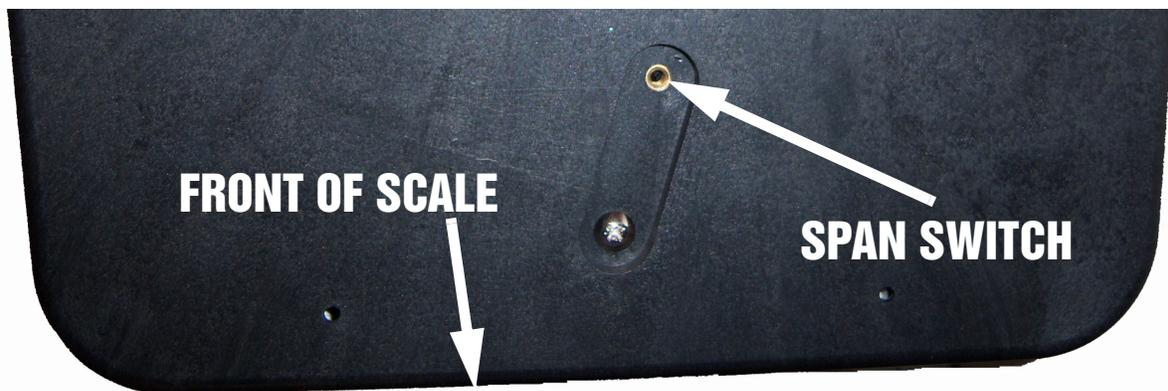

Figure 4-1. Location of Span Switch
1. Turn the scale on, then press the span switch to reset it. (See Figure 4-1 above.)
- Turn the scale on, then press the span switch to reset it. (See Figure 4-1 above.)